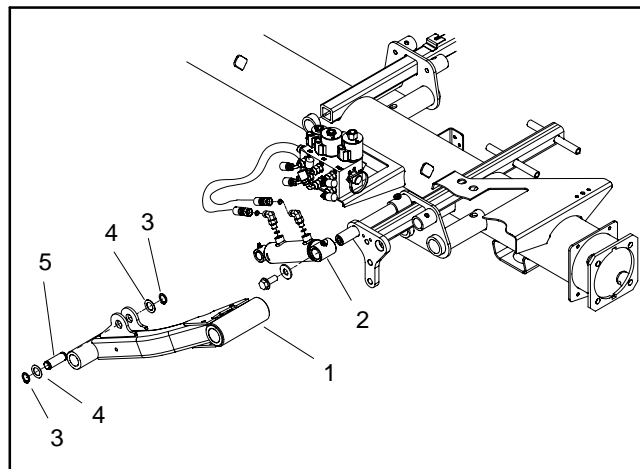

Figure 21
3. Disconnect lift cylinder from lift arm (Fig. 21):
- A. Remove one (1) retaining ring and thrust washer from the cylinder pin that secures lift cylinder to lift arm.
4. Remove fasteners that secure tipper bracket (item 7 or 8) to machine. Remove tipper bracket.
1. If lift arm pivot shaft (item 14) was removed from frame, apply antiseize lubricant to pivot shaft surface and insert shaft into frame. Align holes in frame and pivot shaft. Secure pivot shaft with new roll pin.
2. If pivot shaft (item 16) was removed from lift arm, insert pivot shaft in lift arm and secure with cap screw (item 19).
A. Apply Permatex Blue Gel Threadlocker (or equivalent) to threads of screws (items 9, 12 and 18).
C. Install screws, flat washers (items 11 and 13) and flange nut (item 6) to tipper bracket, pivot shaft and frame bracket.
D. Torque 1/2" fasteners (items 9 and 18) from **75 to 95 ft-lb (102 to 128 N-m)**. Then, torque 5/8" fasteners (item 18) from **135 to 165 ft-lb (183 to 223 N-m)**.
5. Connect lift cylinder to lift arm (Fig. 21):
1. If lift arm pivot shaft (item 9) was removed from frame, apply antiseize lubricant to pivot shaft surface and insert shaft into frame. Align holes in frame and pivot shaft. Secure pivot shaft with new roll pin (item 13).
2. If pivot shaft (item 11) was removed from lift arm, insert pivot shaft into lift arm and secure with cap screw (item 14).
A. Apply Permatex Blue Gel Threadlocker (or equivalent) to threads of screws (items 4, 6 and 8).
C. Install screws, flat washers (items 5 and 10) and flange nut (item 7) to bridge plate, bulkhead bracket, pivot shafts and frame bracket.
D. Torque 1/2" fasteners (items 4 and 8) from **75 to 95 ft-lb (102 to 128 N-m)**. Then, torque 5/8" fasteners (item 6) from **135 to 165 ft-lb (183 to 223 N-m)**.